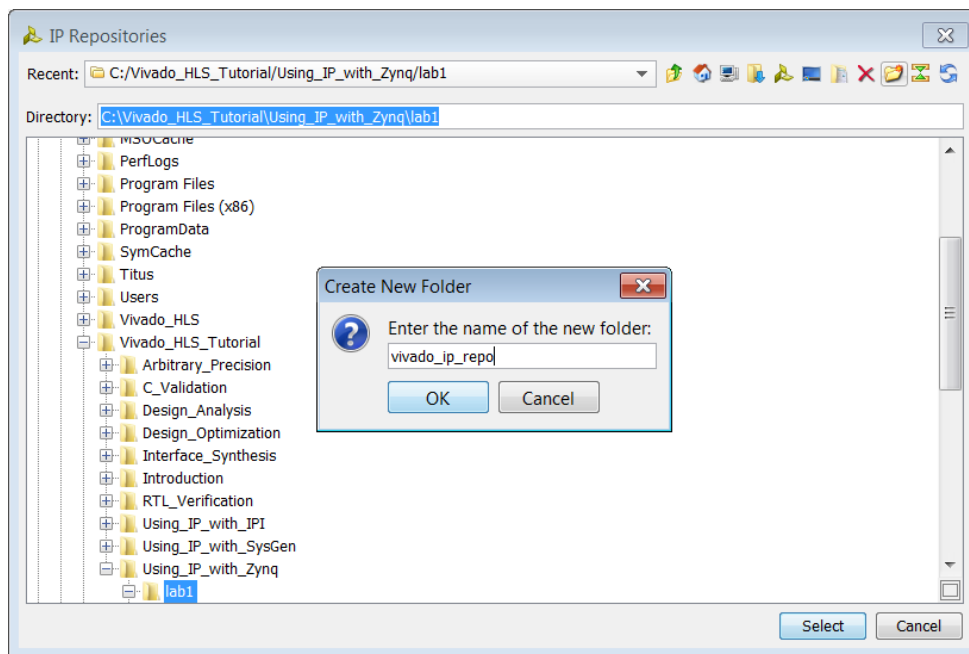

Figure 223: IP Repository
- b. Enter “vivado_ip_repo” in the resulting dialog (**Figure 223**).